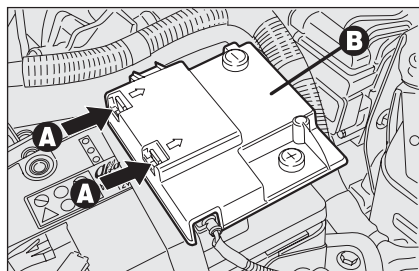

fig. 54
- ☐ operate the retaining clips **A-fig. 54** and remove the protection cover **B**;